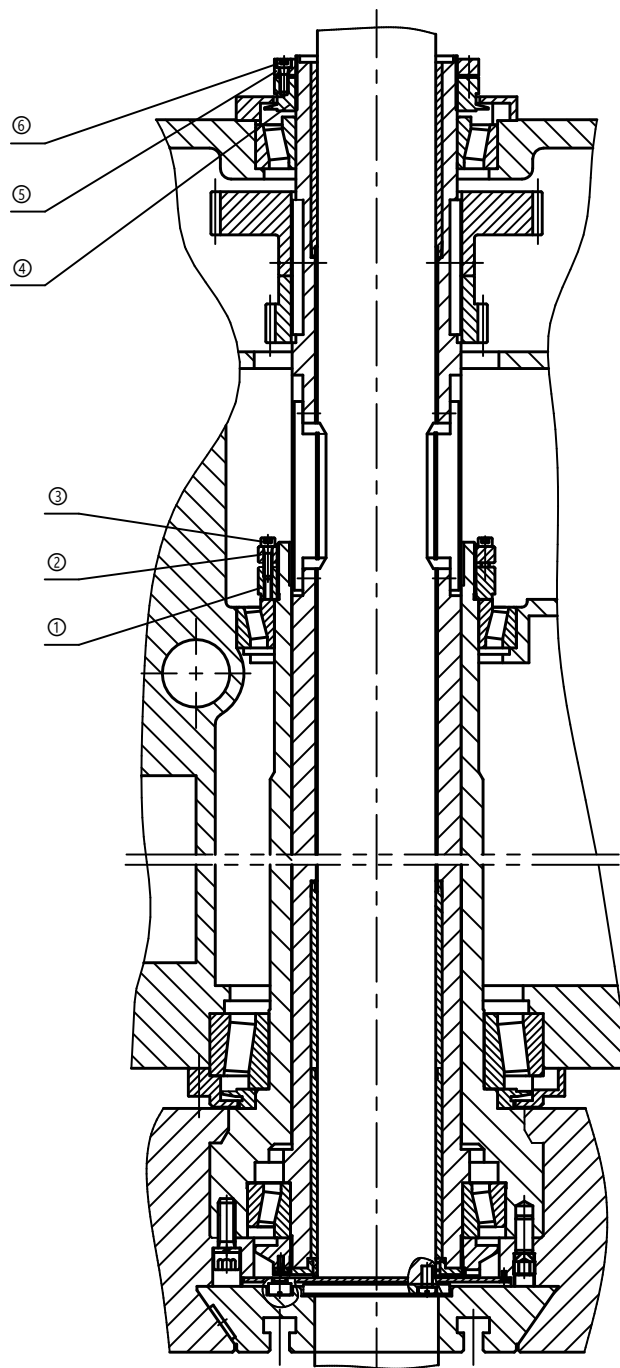
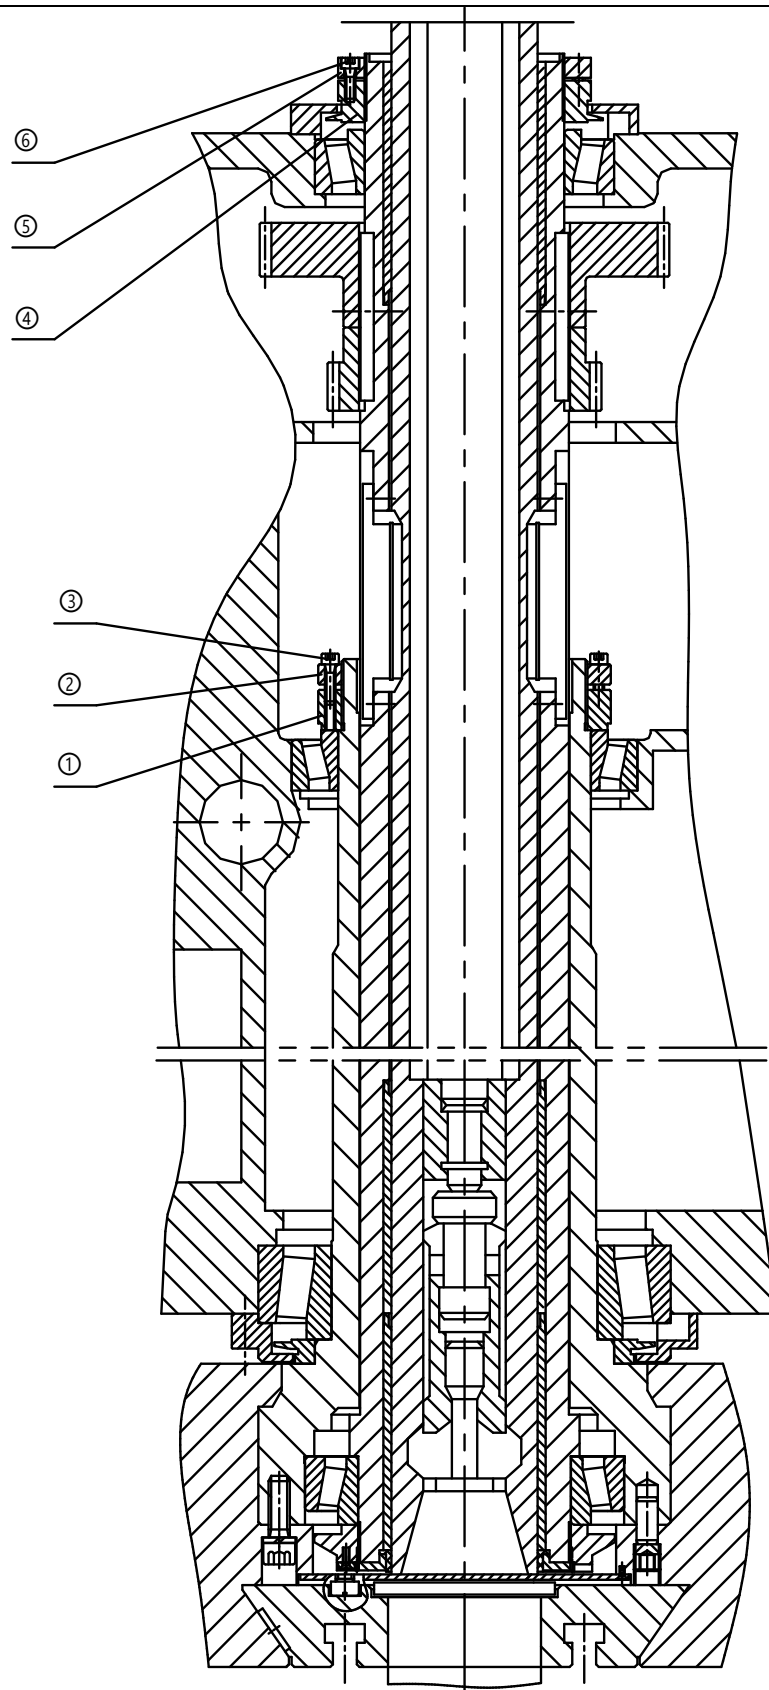

Fig.11-1 Diagram of spindle structure for machine model TPX6111B,TPX6111B/2,TPX6111B/3
Fig.11-2 Diagram of spindle structure for 7:24 50#
The spindle structure of the machine is shown in Fig.11-1 (or Fig.11-2). When the machine need an adjustment after the taper roller bearings of spindle on the facing head have been worn out, first, remove the protective cover plate in the front of headstock and then loosen the screw ③ to readjust the nut ①. After adjustment, turn the nut ② to make the screw holes of the nut ② and the locking nut ① be in alignment and tighten the screw ③ again (see Fig.11-1 or Fig.11-2)
spindle have been worn out, be sure to remove in advance the protective cover plate of tail bracket. Then remove the tightening screw ⑥ (Refer to Fig.11-1 or Fig.11-2) and readjust the locking nut ④. After adjustment, turn the nut ⑤, to make the screw holes of the nut ⑤ and the thread hole of the locking nut ④ being aligned, and renew to tighten screw ⑥.